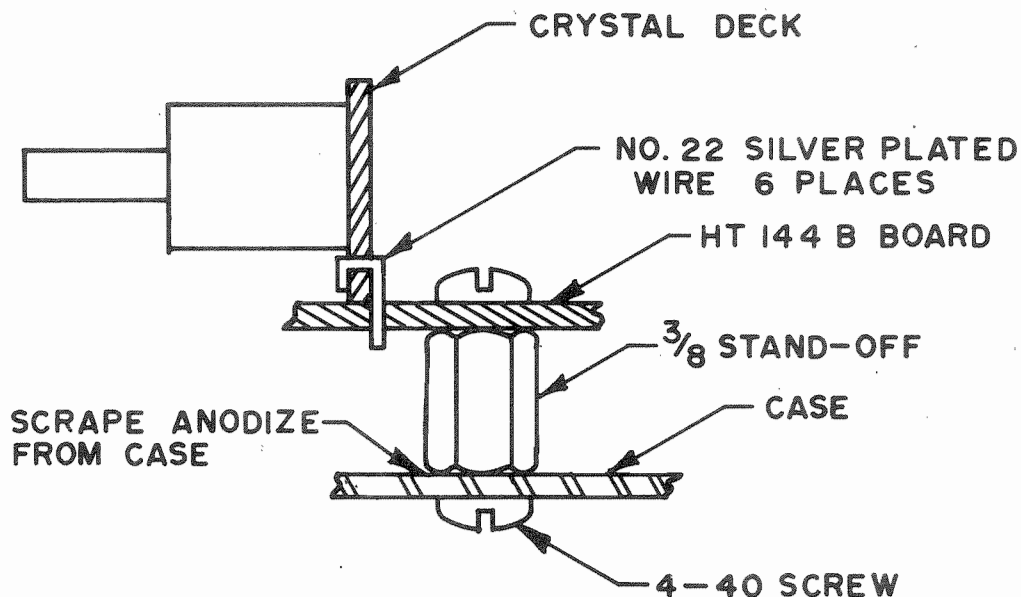

Fig. 2
- 4.) Put one of the 6 precut wires into each of the 6 lower holes in the crystal deck. About 1/16 inch should protrude from the bare side of the board. Bend each wire tightly down against both sides of the board. Refer to fig. 2 for proper final configuration. These wires serve as both circuit connections and mounting studs for the crystal deck.
- 2.) Scrape the black anodize from the areas inside the case around the four P.C. board mounting holes. Install the 3/8" stand offs in the case. Use the 4/40 × 3/4" screw in the lower right position (viewed from the back of the case). The other three stand offs are mounted using 4/40 × 1/4" machine screws. See fig. 2.